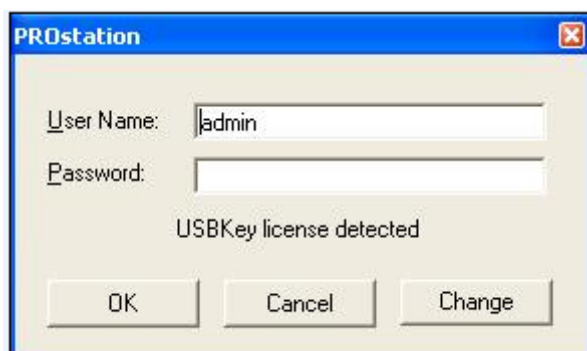

Figure 14: PROstation tool login screen
Open PROstation and follow the “Log in” procedure, see Figure 14.
- Click on the “OK” button. Now PROstation will return to the main login window, see Figure 14.